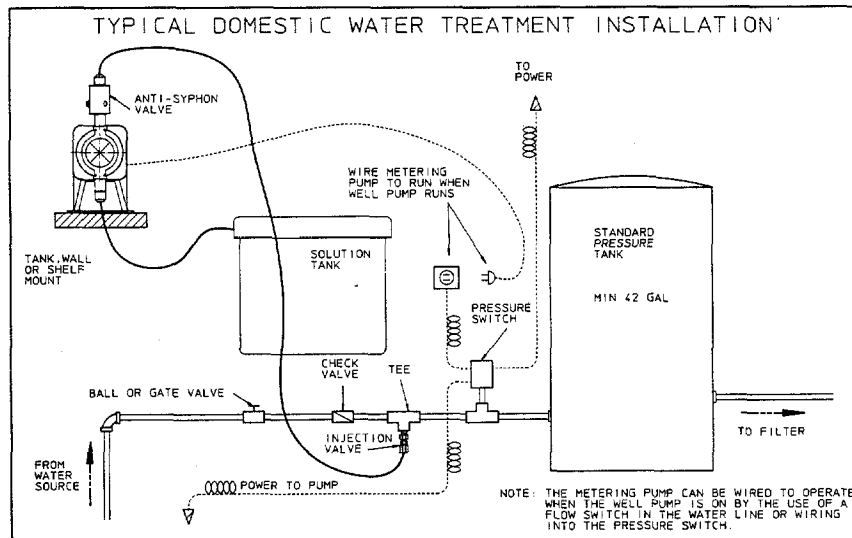

FIG G1
19. The pump is designed to operate using a backpressure/injection valve. If the discharge point is below the liquid level of the source or if the discharge pressure is less than the suction pressure, siphoning may occur. To correct this condition, install an anti-siphon valve or other anti-siphon device. Check local regulations which may apply. (Reg. Figure G1).
2. Install the backpressure/injection valve on the discharge side of the metering pump into a tee which is installed into the water line going to the pressure tank. Typical installations are found in figures G1, G2 and G3.